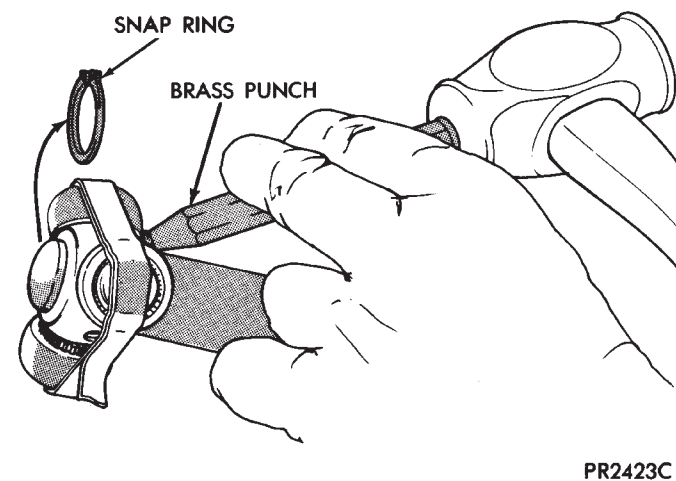

Fig. 4 Remove Snap Ring then Tripod
CAUTION: When removing the housing from the tripod, hold the rollers in place on the trunnion studs to prevent the rollers and needle bearings from falling away. After the tripod is out of the housing secure the rollers in place with tape (Fig. 4).
S.S.G. Remove the snap ring from the shaft end groove. Remove the tripod by hand or by tapping the body with a brass punch (Fig. 4).
(2) Remove the tripod assembly from the interconnecting shaft. Tripod can be removed either by hand or by tapping the tripod body with a brass drift (Fig. 4). Do not hit the outer tripod bearings in an attempt to remove tripod assembly from interconnecting shaft.